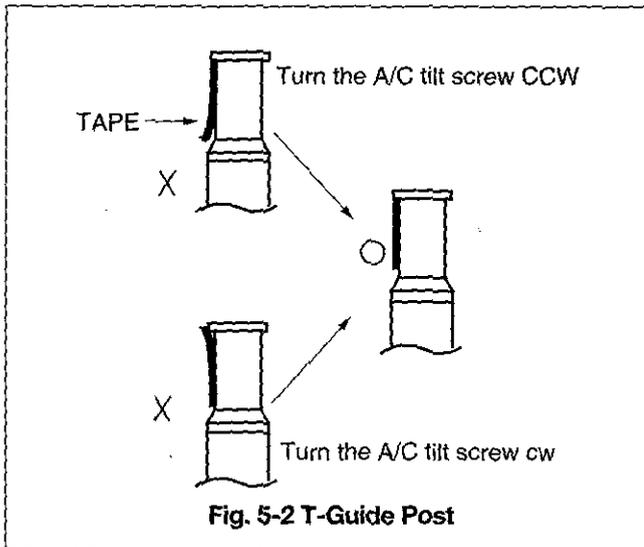

Fig. 5-2 T-Guide Post
- Adjust the Tilt Adjusting Screw until tape runs stable as shown in Fig. 5-2.